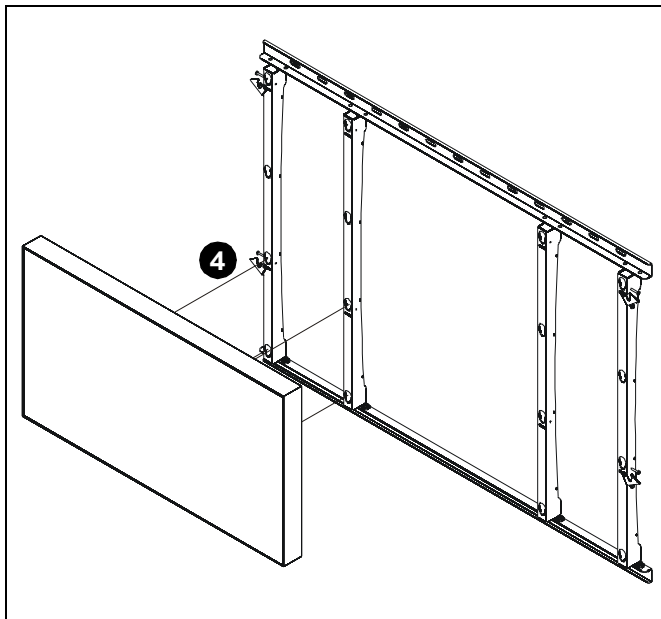

Figure 8
4. Lift display onto mount by inserting mounting buttons into teardrop openings on vertical mounting brackets. (See Figure 8)